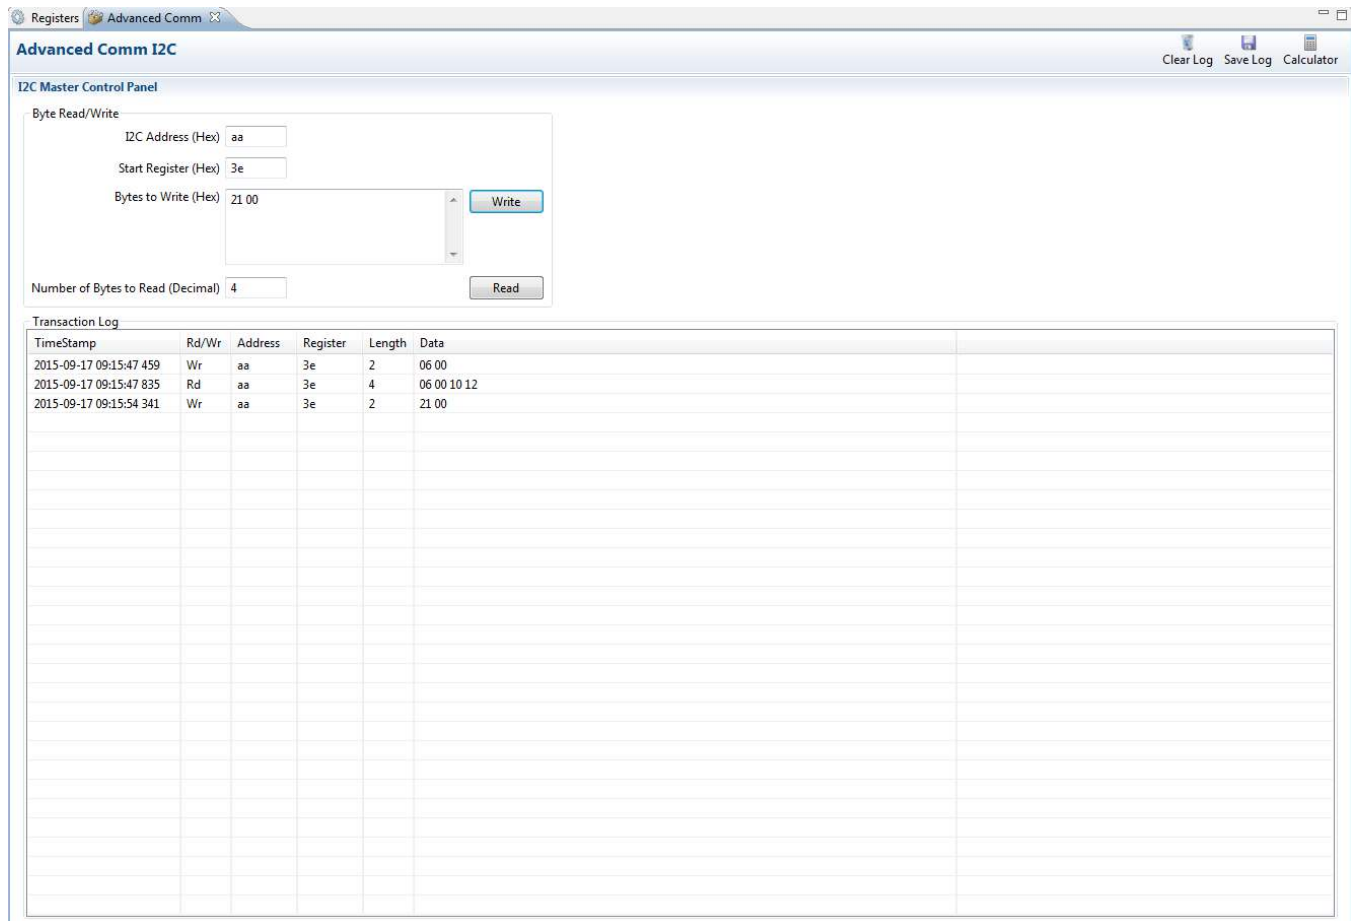

Figure 9. Advanced Comm Screen
Press the **Advanced Comm** button to select the **Advanced Comm** window. This tool provides access to parameters using I²C and Manufacturing Access commands, see Figure 9. The transaction log screen shows the history of sent commands.
- Write to mac address 3e Command 06 00 (see Figure 9)
- Write to mac address 3e command 21 00 (see Figure 9).